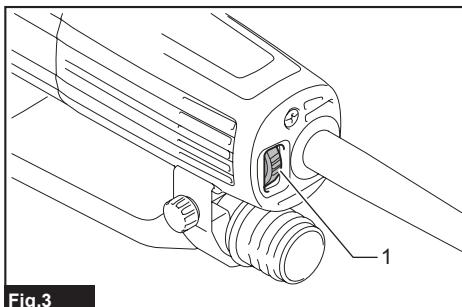

Fig.3
►Fig.3: 1. Speed adjusting dial